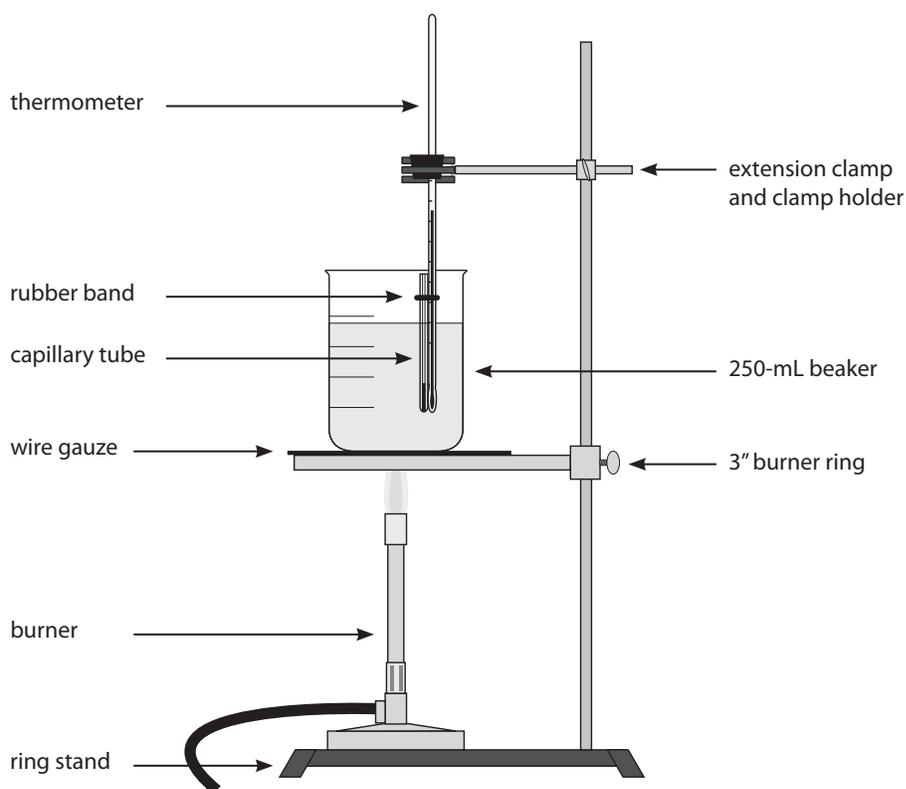

Figure 1-1. Melting point apparatus.
Familiarize yourself with the melting point apparatus shown in Figure 1-1 before proceeding. Prepare a data table in your lab journal for recording melting point data. You will need to record the melting point range determined in each of two trials for the two solid substances.
4. Secure the capillary tube to the thermometer using a rubber band as shown in Figure 1-1.